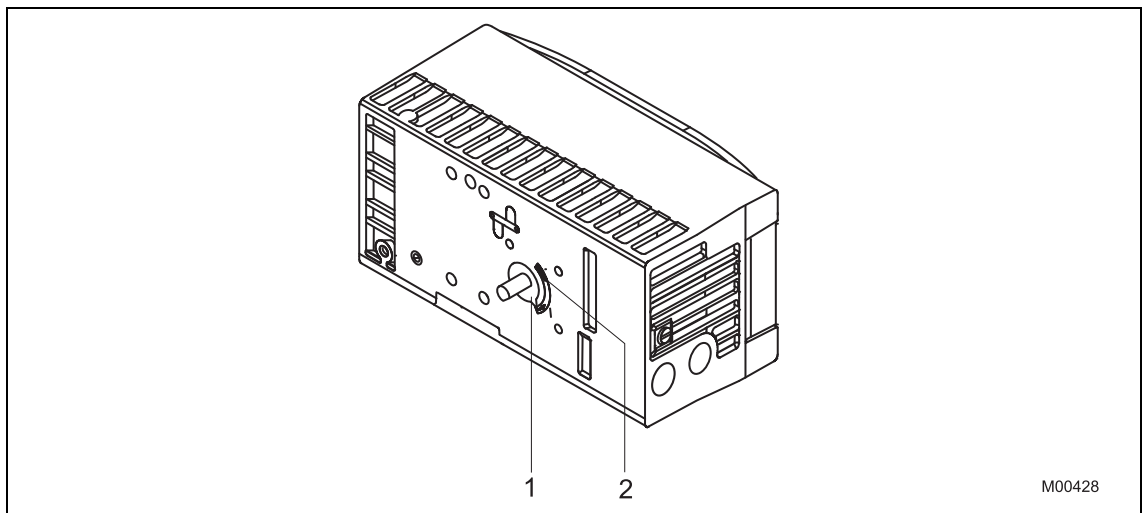

Fig. 2: Operating range
- Based on the mounting position as well as the home position and rotational direction of the actuator, determine in which position the feedback shaft (1) for the positioner must be pre-adjusted and in which position the adapter (2) must be placed to enable the positioner to travel within the proper range (the arrow on the rear of the device must travel within the admissible range, see Fig. 2).
- Place the adapter in the proper position on the feedback shaft and fasten with set screws (3). One of the set screws must be locked in place on the flat side of the feedback shaft.